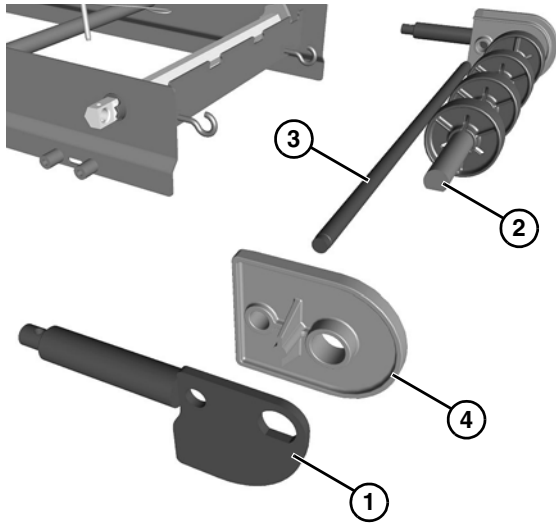

Figure 64
3. Remove the shaft assembly (**Figure 64, item 1**) from idler shaft (**Figure 64, item 2**) and pinch guard shaft (**Figure 64, item 3**).
4. Remove tracking plate (**Figure 64, item 4**) from idler shaft and pinch guard shaft.
5. Remove pinch guard shaft (**Figure 64, item 2**).